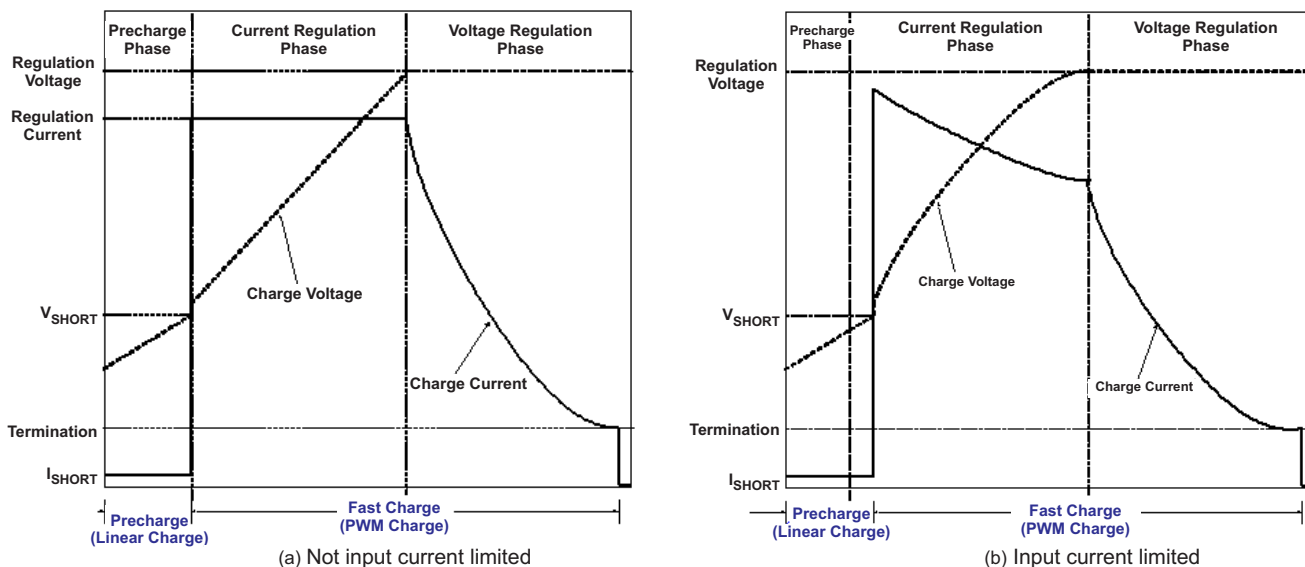

Figure 2. Typical Charging Profile of bq24273
There are 5 loops that influence the charge current; constant current loop (CC), constant voltage loop (CV), thermal regulation loop, input current sense loop and input voltage dynamic power management loop (VIN-DPM). During the charging process, all five loops are enabled and the one that is dominant takes control. The bq24273 supports a precision LiFePO4, Li-Ion or Li-Polymer charging systems for single-cell applications. Figure 2 shows a typical charge profile.
When the battery is deeply discharged or shorted ($V_{BAT} < V_{BATSHRT}$), the bq24273 applies a 50mA current to close the pack protector switch and bring the battery voltage up to acceptable charging levels. Once the battery rises above $V_{BATSHRT}$, the charge current is regulated to the value set in the I²C register. If the die temperature does heat up, the thermal regulation circuit reduces the charge current to maintain a die temperature less than 125°C. The slew rate for fast charge current is controlled to minimize the current and voltage over-shoot during transient. The charge current is regulated to $I_{OCHARGE}$ until the battery is charged to the regulation voltage. Once the battery voltage is close to the regulation voltage, V_{BATREG} , the charge current is tapered down as shown in Figure 2. The voltage regulation feedback occurs by monitoring the battery-pack voltage between the BAT and PGND pins. The bq24273 is a fixed single-cell voltage version, with adjustable regulation voltage (3.5V to 4.44V) programmed using the I²C interface.